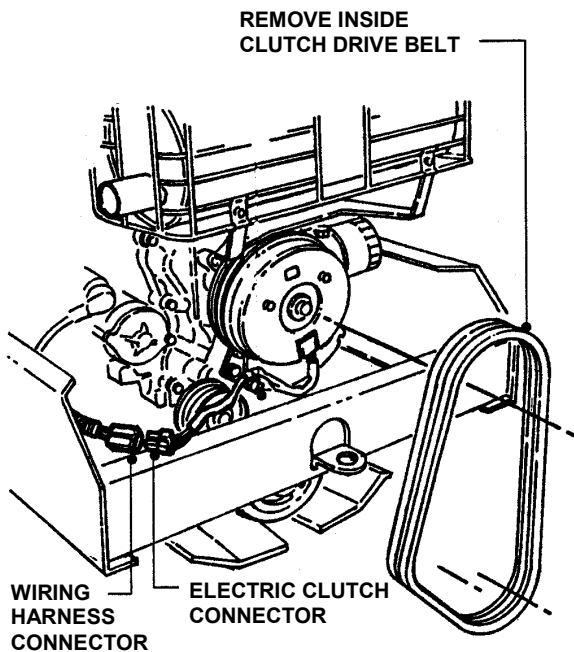

FIGURE 1.1
**A.** Depress belt idler and remove the inside (forward) clutch drive belt. See Figure 1.1.